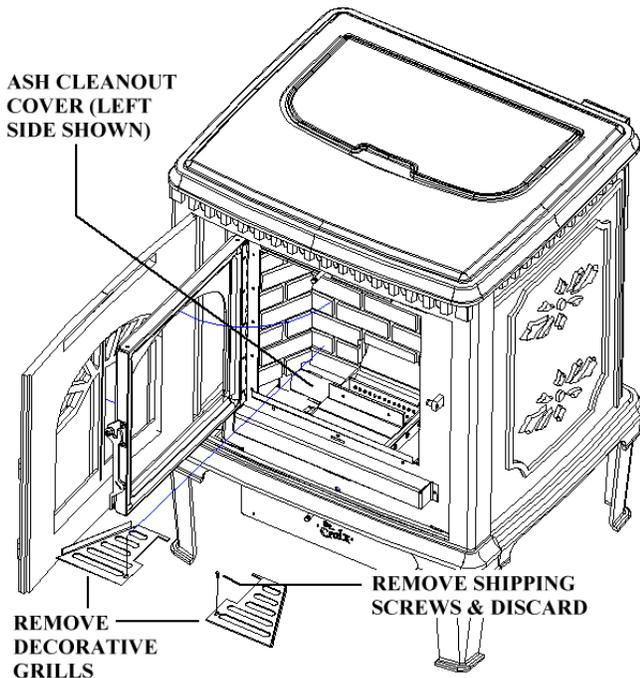

Figure 7
2. The Hastings has 2 exhaust cleanouts located below the rear brick panel. Remove covers and clean regularly. (See Figure 7 below) Be sure to clean both sides.
1. **Spring Shutdown.** After the last burn in the spring, cool the stove. Remove all pellets from the hopper and the auger. Thoroughly clean the burn grate, burn grate box, ash pan and ash traps behind the ash pan. *(To locate the ash traps see Figure 7 on page 11)*